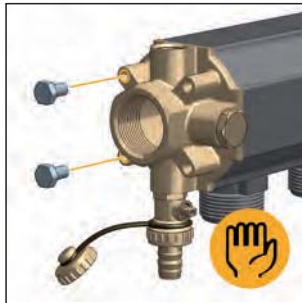

Figure 4
1. Hand thread the furnished hex head cap screws in the manifold end fitting (with air vent and fill/drain valve) backside threads (see figure 4): Do not tighten them to the end stop since they are the anchor point between the manifold and the brackets.